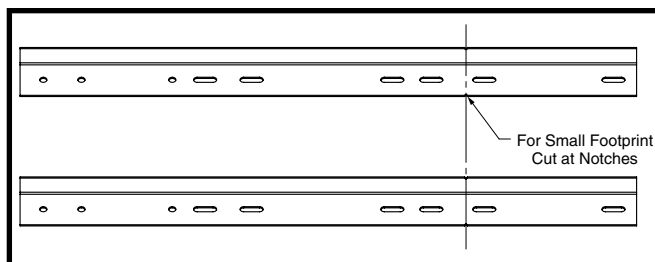

Figure 3. Notch Locations for Small Footprint
- For an application where mounting a small footprint split system, cut the brackets off at the visible notches on the part as shown in Figure 3 (page 3).